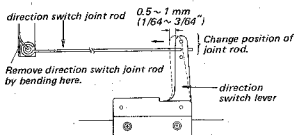

Fig. 3-17. Direction switch joint rod stroke adjustment
1. Place the unit in the STOP mode. Push the tip of the direction switch lever slowly in the direction shown by the arrow in Fig. 3-17 as far as the slide switches on the playback and the bias osc. circuit boards are changed. (Do not move the position of switch).